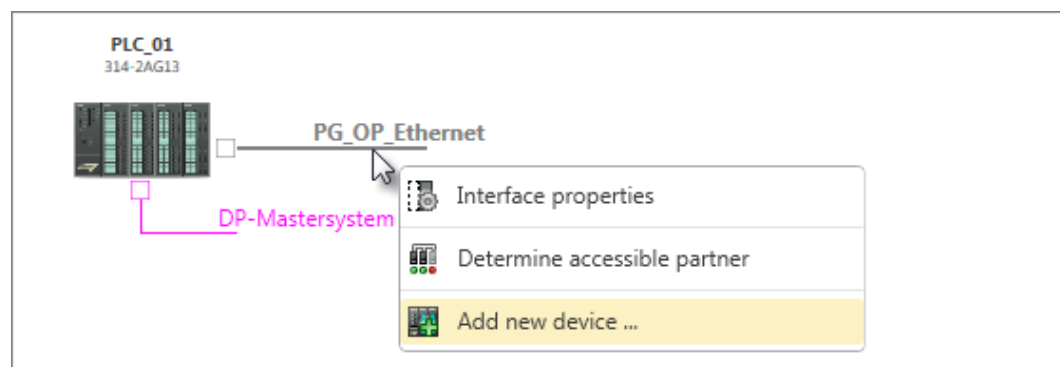

Fig. 58: Add HMI device on the connecting line
- **Editor "Devices and networking":** Right-click with the mouse button on the connecting line "PG\_OP\_Ethernet" and select 'Add new device'. Fig. 58